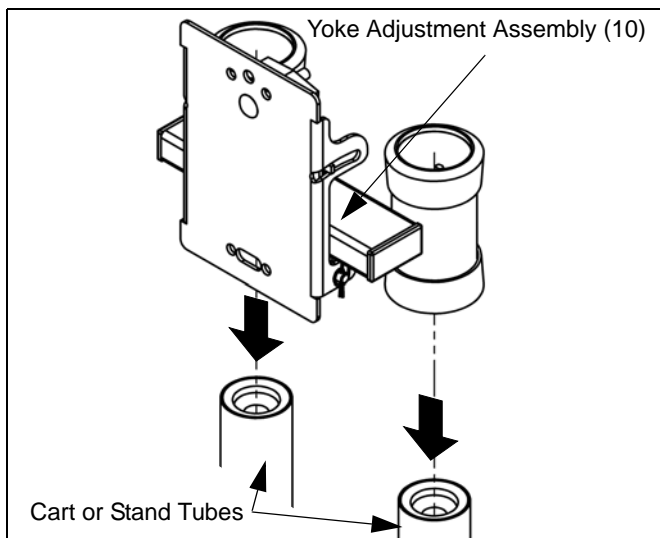

Figure 2: Install Yoke Adjustment Assembly
1. Install yoke adjustment assembly (10) on tubes of stand or cart. (see Figure 2)